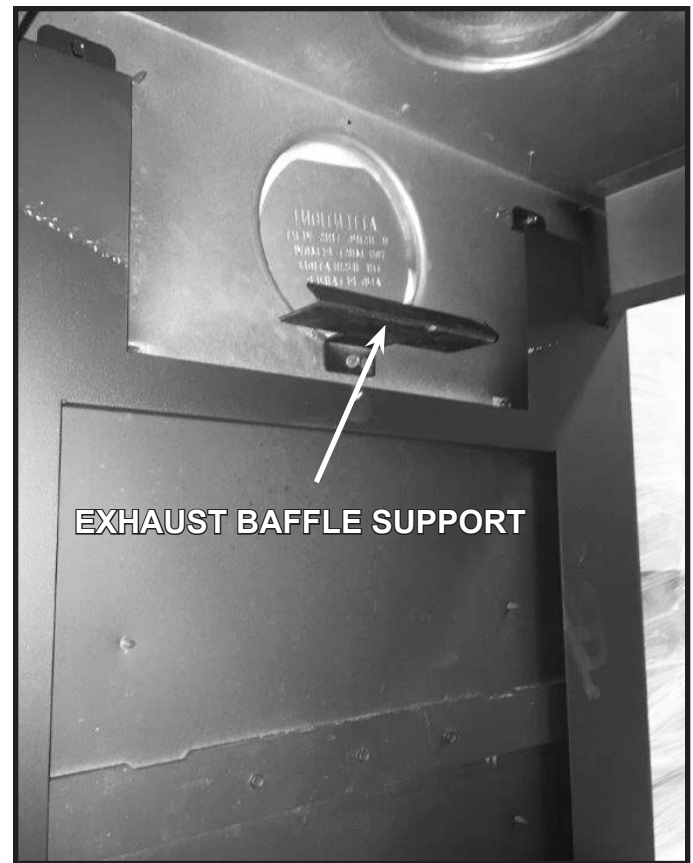

Figure 3.
8. Attach the exhaust baffle support using the existing screw hole as shown in Figure 3.